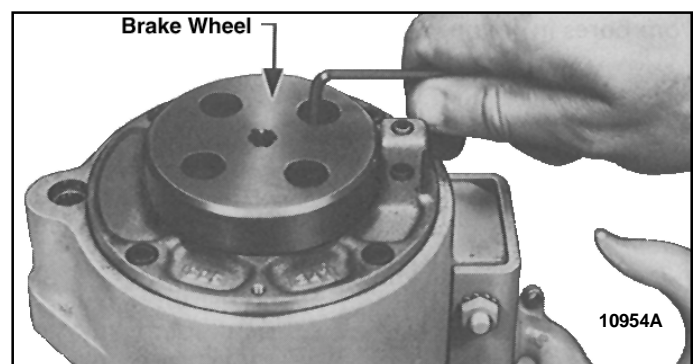
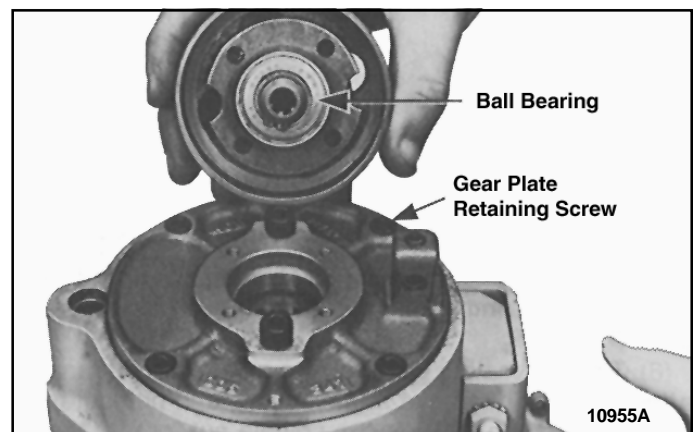
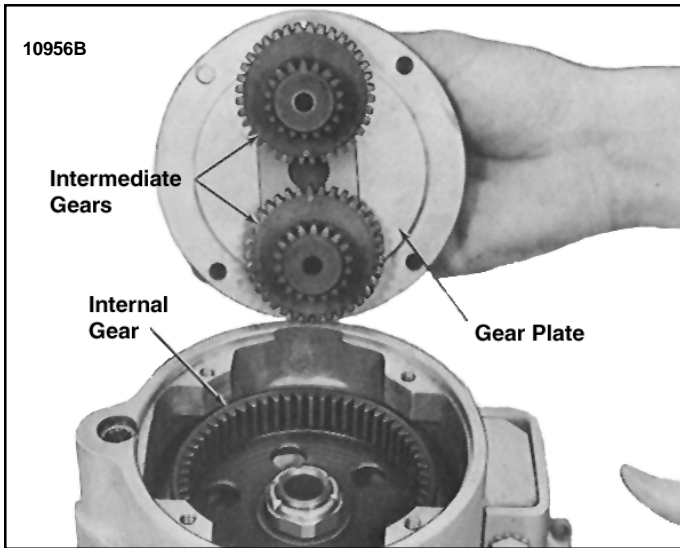
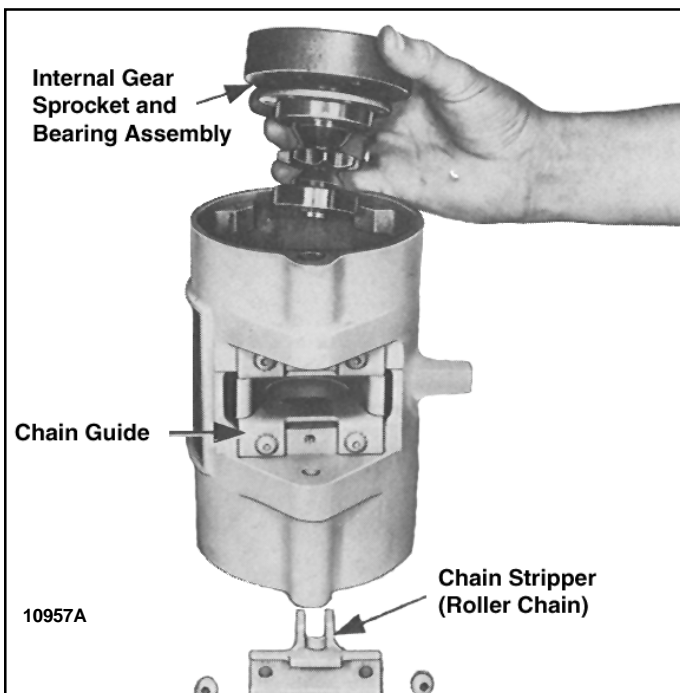

Figure 7-8. Removing Cap Screws Securing Bearing Clamp Plate.
Figure 7-9. Removing Brake Wheel and Ball Bearing Assembly.
Figure 7-10. Removing Gear Plate and Intermediate Gears.
Figure 7-11. Removing Internal Gear, Chain Sprocket and Ball Bearing Assembly (Roller Chain Model).
(1) Rotate brake wheel until holes in web are aligned with four socket head cap screws (Figure 7-8). Remove screws, then lift brake wheel off (Figure 7-9) after prying up lightly and evenly with screwdriver to free ball bearing. Ball bearing and clamp plate are pressed off after removing retaining ring from wheel hub.
(2) Remove four socket head screws securing gear plate to frame and lift off plate and intermediate gears as a unit (Figure 7-10). Do not remove the two socket head screws from flange around brake wheel bearing hole (Figure 7-9) unless it is necessary to replace intermediate gears.
(3) On roller chain models, remove two fillister head screws attaching chain stripper to frame and lift out stripper. Chain stripper on coil chain models is integral with chain guide.
(4) On coil chain models, remove four fillister head screws attaching chain guide and stripper assembly to hoist frame. This will free guide to allow sprocket to be pulled through it as it is removed in step (5). Refer to Figure 7-11.
(5) Rotate internal gear (Figure 7-10) until holes in web align with six socket head screws securing bearing clamp plate to frame. Remove internal gear, chain sprocket and ball bearings as a unit (Figures 7-11 and 7-12). It may be necessary to tap sprocket to free ball bearings from bores in frame.
d. **Assembly of Brake.** If the brake linings show excessive wear, replace brake shoes. In reassembling the brake, the brake wheel assembly goes into position first and is fastened in place by the four screws referred to in paragraph 7-2.f.(1). (See Figures 7-8 and 7-9.) Now place the steel fulcrum balls in their receiving cup, using a small amount of thick grease to hold them in place. The balls should retract completely into the receiving cups. Now place the shoes up to the fulcrum balls and brake wheel. Replace the brake spring, using the spreader tool to start the spring over the shoes. (See Figures 7-4 and 7-5.) Tap the spring into place. Adjust brake shoes per instructions in Figure 7-15.